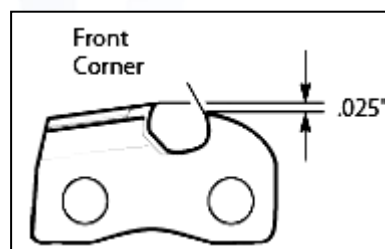

Figure 14
3. Remove depth gauge tool. With flat file, round off front corner of cutter depth gauge (see **Figure 14**).